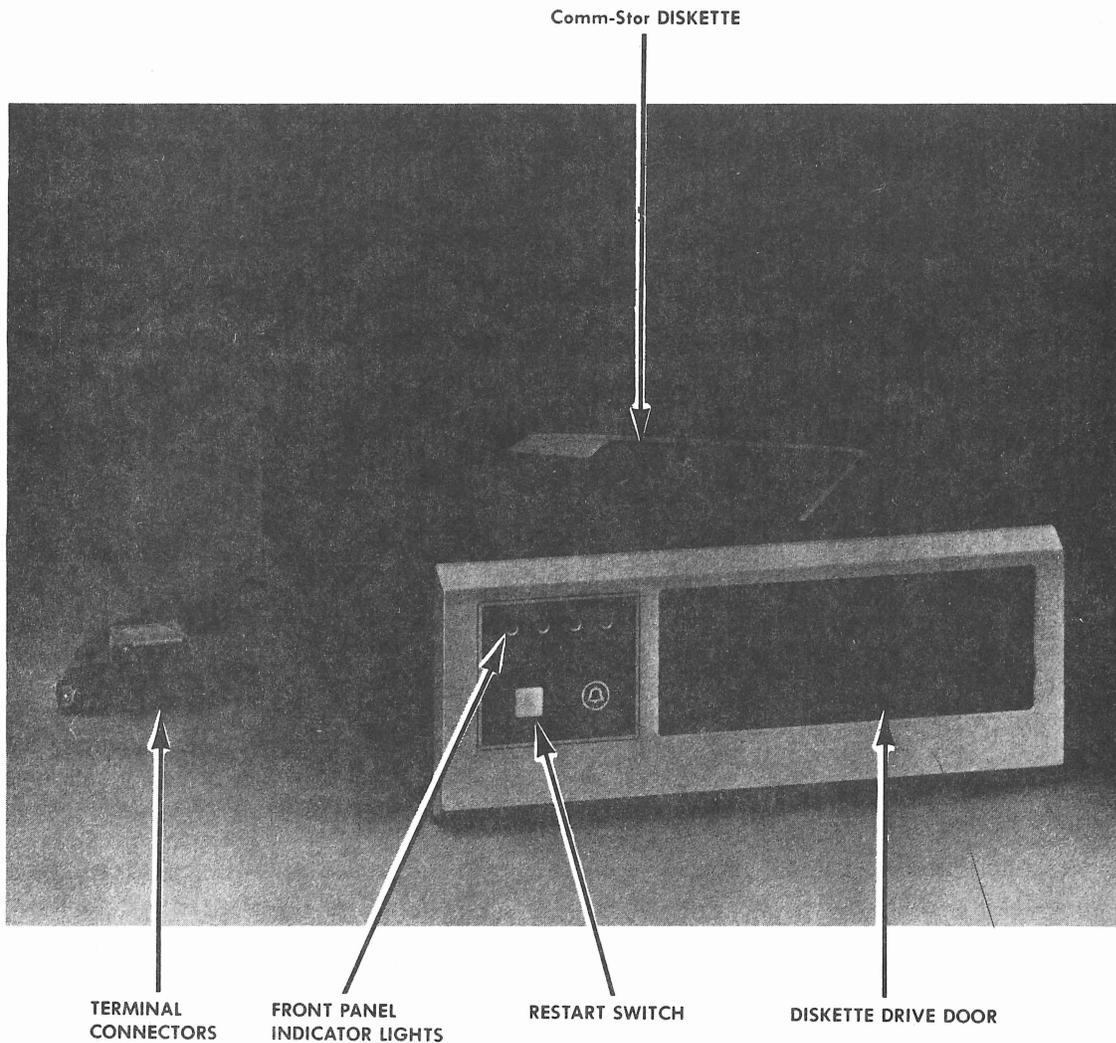

Fig. 3—Front View of Comm-Stor Unit
perform a visual lamp test. The function of each indicator is described below (Fig. 3).
**6.08** The drive doors (Fig. 3) of all Comm-Stor units are equipped with an interlock which prevents them from closing unless a diskette is fully inserted.